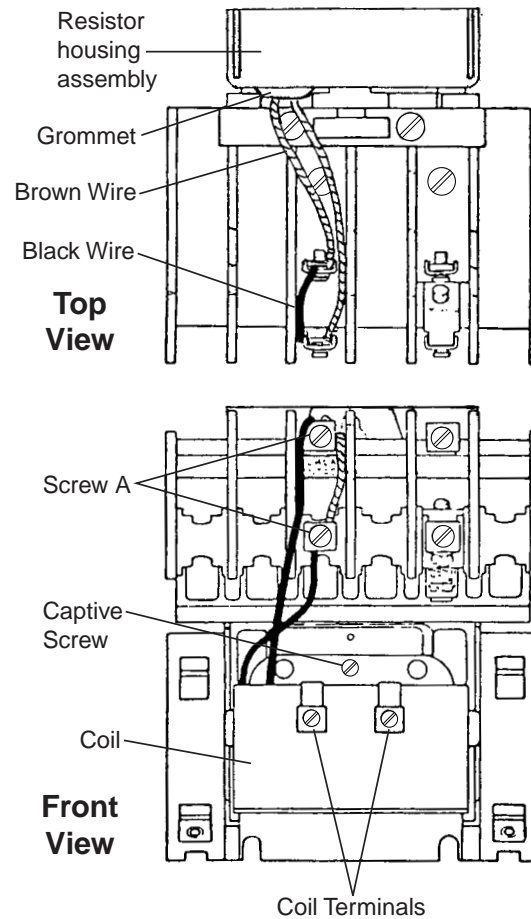

Figure 1: Coil Voltage Modification
1. Loosen the two screws A of the overlapping contact shown in Figure 1. Free both wires leading to the coil and both wires leading to the resistor housing assembly.
5. Route the coil and the resistor housing assembly wires as shown in Figure 1. Connect the wires to the overlapping contacts by retightening screws A.